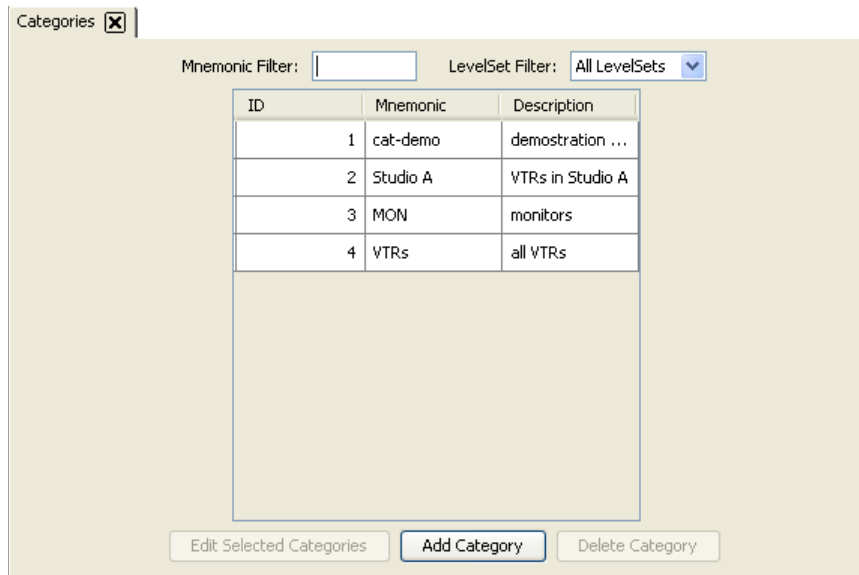

Figure 10-18. Categories Page
- 1 From the Navigation area, select the 'Configuration' pane and then 'Categories'. The 'Categories' page displays, as shown in Figure 10-18.